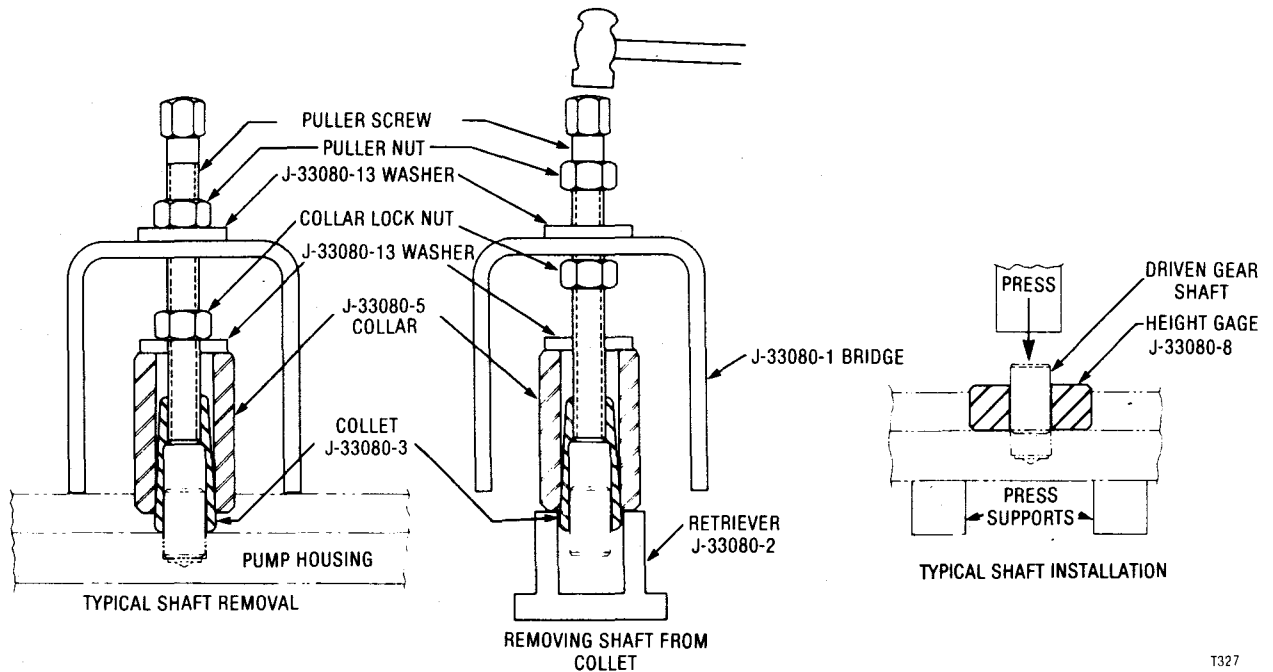
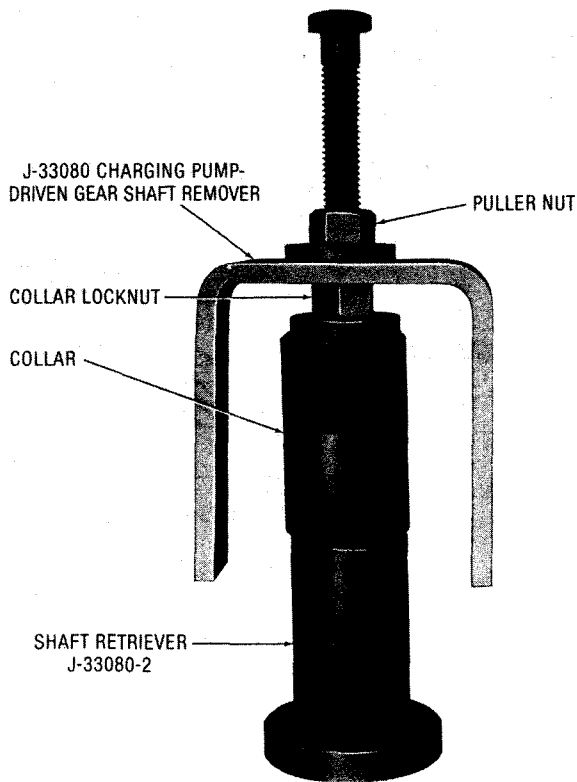

Fig. 6-32. Removal and installation of pump driven gear shaft
Fig. 6-34. Removing shaft from collet
(5) If present, remove the oil seal by driving or pressing it toward the rear (accessory mounting face) of the pump.
(6) If replacement of the driven gear shaft is necessary, remover assembly J-33080 may be used.
(7) Assemble the puller over the shaft as shown in figure 6-32 with collet J-33080-3.
(9) Retain the puller screw (fig. 6-32) with a wrench while tightening the puller nut to remove the shaft. If the collet does not pull the shaft, repeat steps (8) and (9) and apply additional torque to the collet locknut.
(10) To remove the shaft from the collet, back off the collar locknut and puller nut, position the collar over retriever J-33080-2 (fig. 6-34), and tap the top of the puller screw with a hammer (fig. 6-32).
(1) If the driven gear shaft was removed, support the charging pump housing in a press (fig. 6-32).
(2) Position height gage J-33080-8 over the driven gear shaft bore in the pump housing and place the new shaft into the gage; chamfer on the shaft will engage into the housing bore.